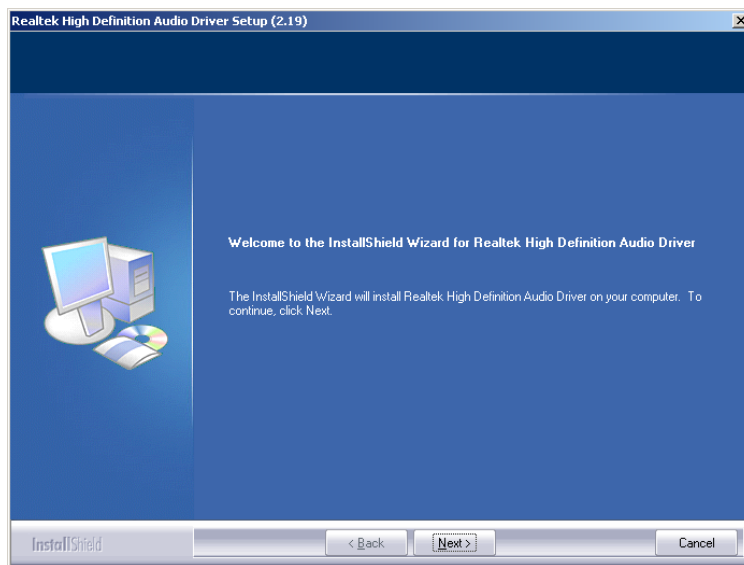

Figure 7-32: InstallShield Wizard Welcome Screen
Step 9: Once initialized, the **InstallShield Wizard** welcome screen appears (Figure 7-32).